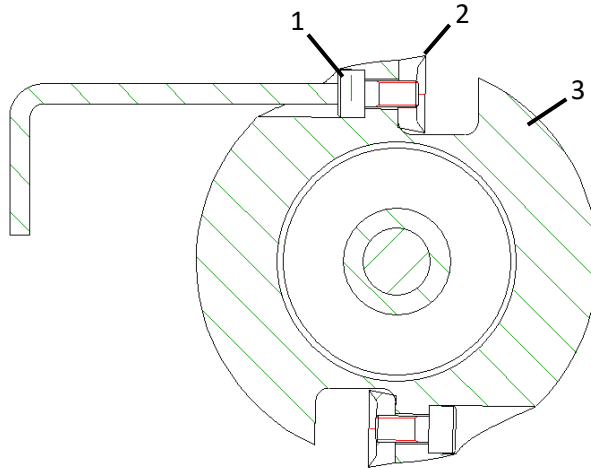

Fig. 3. Changing the knives
- Loosen the knife screws (1 - Fig. 3) on the milling head (3 - Fig. 3) with a 3 mm Allen key.
- Replace the circular knives (2 - Fig. 3) or turn them by 180°.